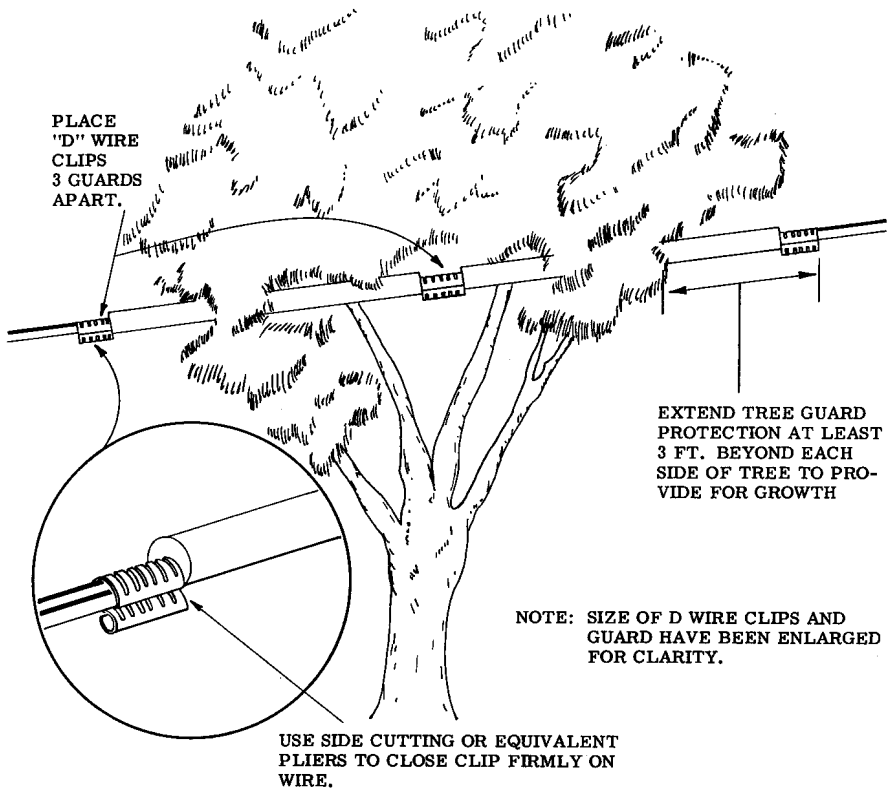

Figure 1. Positioning P Wire Guards
- c. Crimp the "D" clip with a pair of pliers as shown in Figure 1.